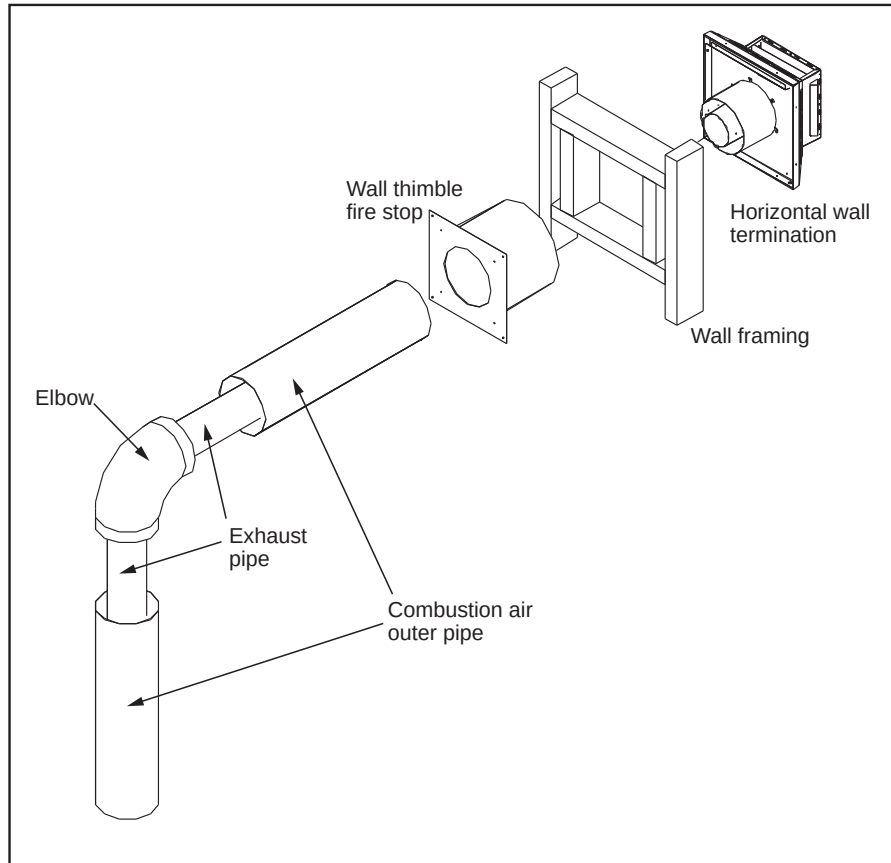

Figure 42. Horizontal Vent Termination
Step 3. With the pipe in the correct position and attached to the fireplace, mark the wall for a 10 inches (25.4 cm) x 10 inches (25.4 cm) square hole (see Figure 42). The center of the hole should match the center line of the horizontal pipe. Cut and frame the hole in the exterior wall where the vent will be terminated. If the wall being penetrated is made of a non-combustible material (i.e. masonry or concrete) a 7 inches (17.8 cm) hole is acceptable.
Step 3. To install the Round Support Box/Wall Thimble in a flat ceiling, cut a 10 inch (25.4 cm) square hole in the ceiling, centered in the hole drilled in Step 2. Frame the hole as shown in Figure 42.